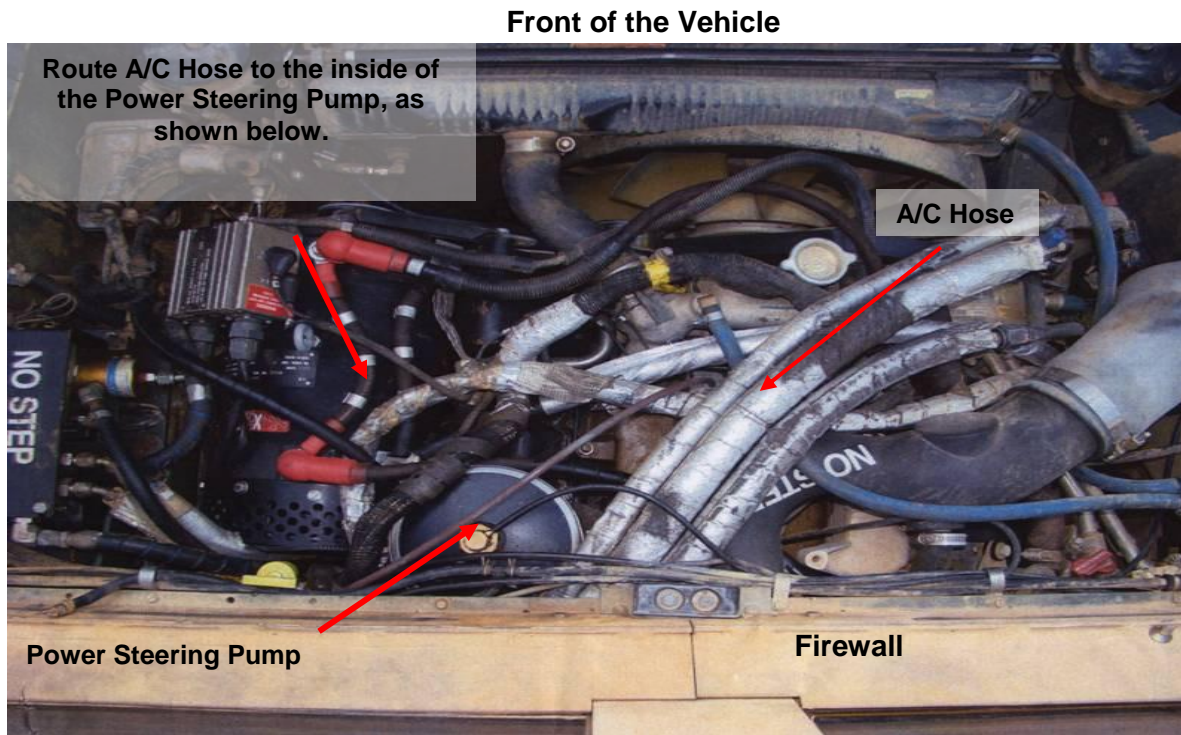

Figure 60
(5) Route A/C hose assembly across engine compartment and over the upper oil dipstick support bracket as shown in **Figure 60**.